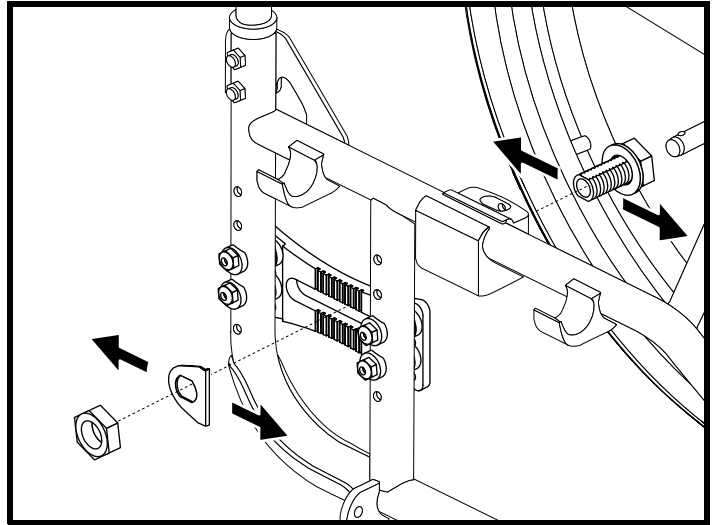

Figure 16. Drive Wheel Position Adjustment
2. Remove the center bolt and nut from the axle bracket. See figure 16.